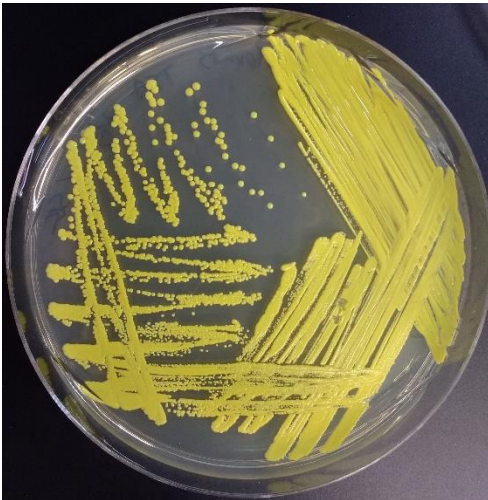

Figure 3. Quadrant Streak of a Pure Culture; 4 distinct areas are streaked.
1. Draw lines on the bottom of your plate as shown in figure 3. The first line should be a little off center. Drawing these is not absolutely necessary, but they help when you are first learning.